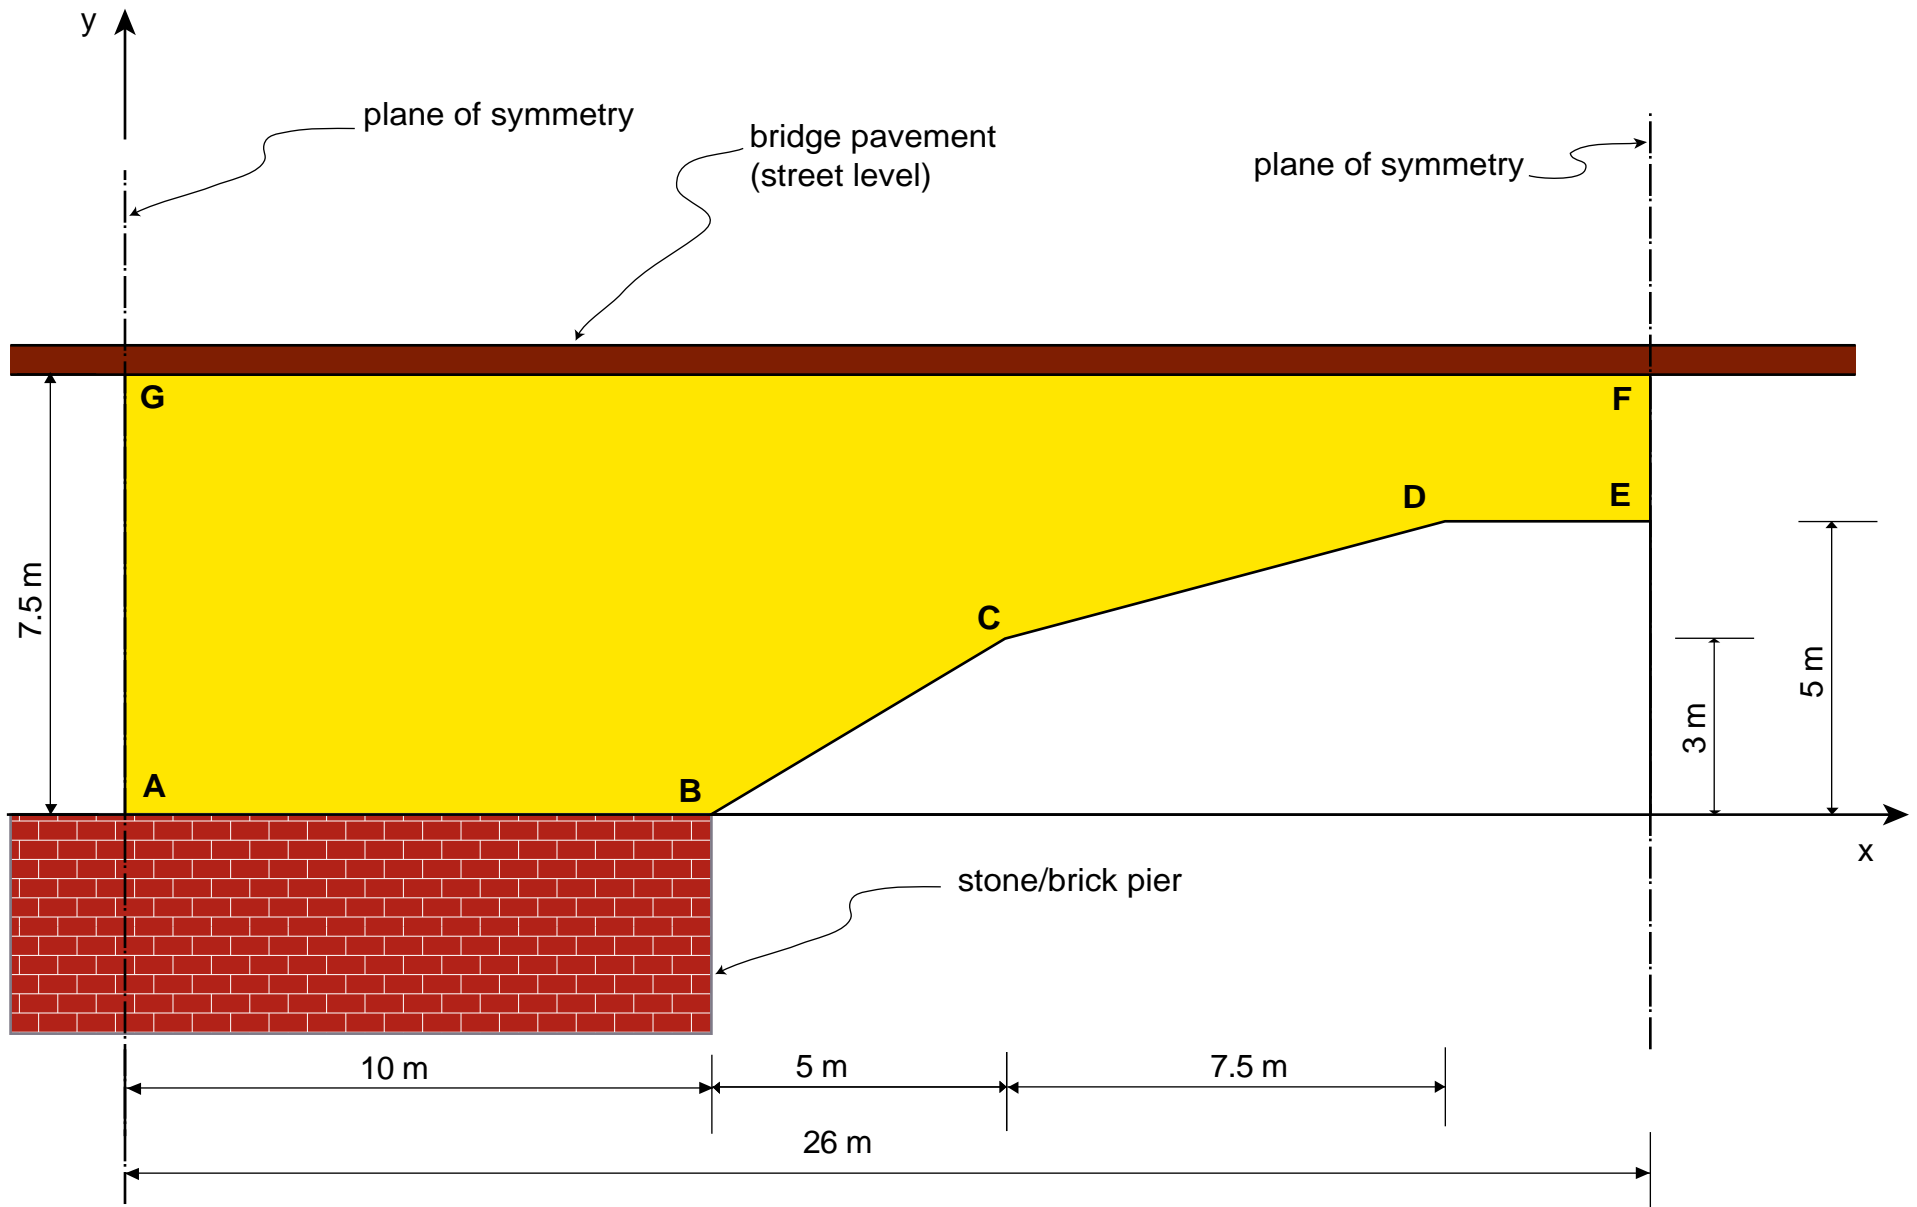

Figure 2. Design constraints
- 1) Select the truss geometry and enter the bar elements. You may want to use the optimized design developed in Project 3 as your first design iteration. Apply boundary conditions and material properties. Follow the geometrical, support, symmetry, and length requirements listed in Fig. 2. Only one half of the modular span needs to be modeled. See Fig.3 for an example of boundary conditions simulating structural symmetry.
- 5) For the elements in tension: compute $\sigma_{applied}$ due to the sum of the loads in (4) and (5) and verify that $\sigma_{applied} \leq \sigma_{allow.} = \frac{\sigma_{st}}{f.s.}$. Tabulate the results as shown in the Appendix.
- 6) For the elements in compression: compute $\mathbf{P}_{applied}$ and $\sigma_{applied}$ due to the sum of the loads in (3) and (4) and verify that $\mathbf{P}_{applied} \leq \frac{\mathbf{P}_{critical}}{f.s.}$ and $\sigma_{applied} \leq \sigma_{allow.} = \frac{\sigma_{cr}}{f.s.}$. Tabulate the results as shown in the Appendix.
- 7) To verify the truss stiffness, compute $D = v_F - v_G$, where v_F and v_G denote the total downward displacement at points F and G, respectively (see Fig. 2). Tabulate the results as shown in the Appendix. If $D < 52\text{mm}$ the stiffness of the truss is verified.
- 8) If the truss passes verification, record the weight of the truss (this is equal to the sum of the vertical reactions computed in (3).) If the truss does not pass verification, make the appropriate changes in step (1) and (2) and repeat the process. The current design iteration is not completed until results are verified.